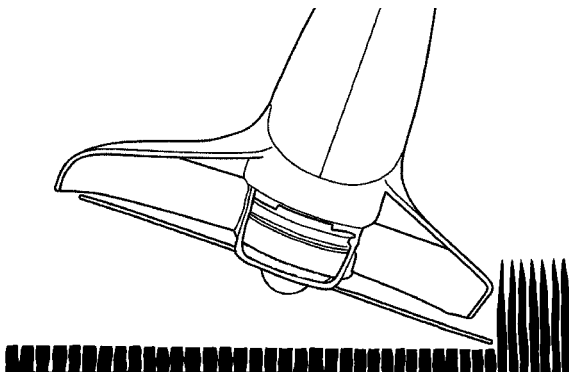

Fig. 13
2. **CLOSER TRIMMING** (Fig. 13). Position trimmer straight ahead with a slight tilt so bottom of stringhead is above ground level and string contact occurs at proper cutting point. Always cut away from operator. Do not pull trimmer in toward operator.